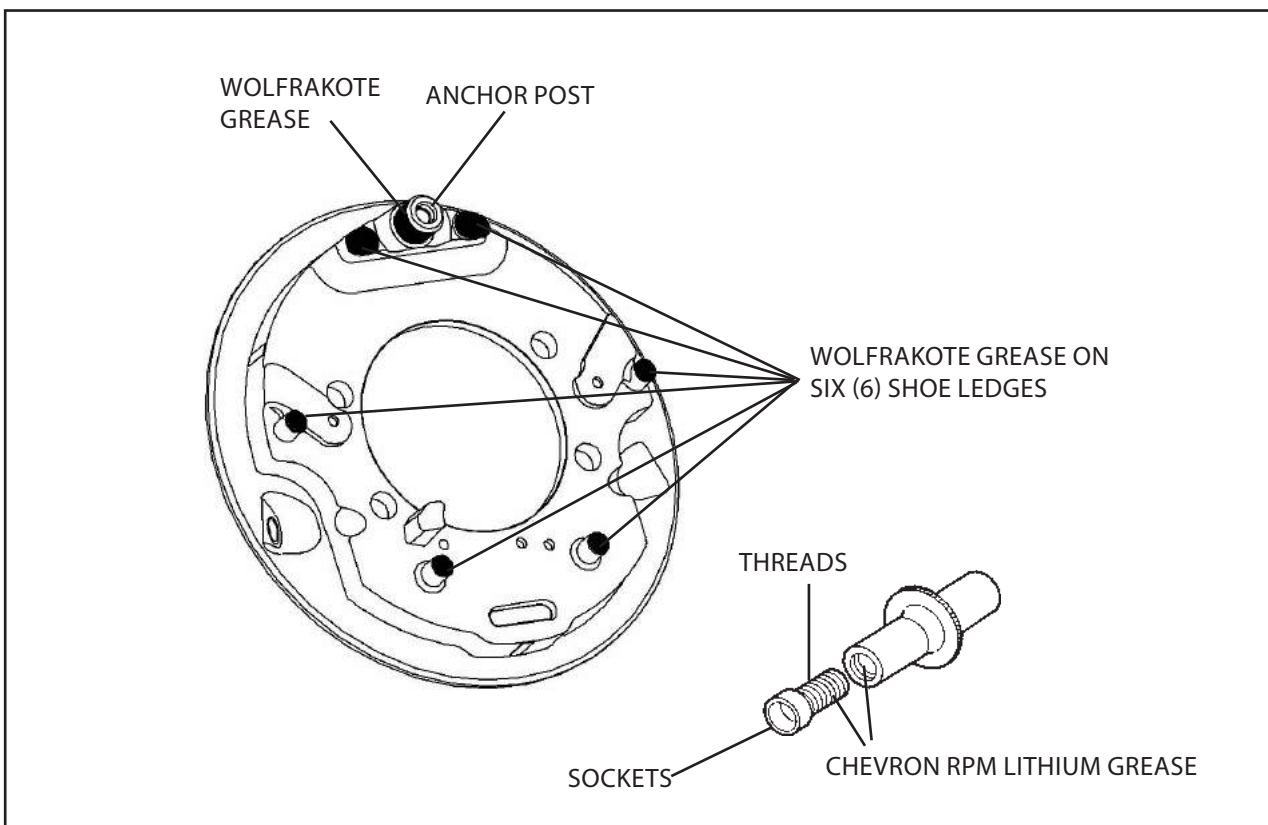

Figure 10. Application of Wolfrakote Paste Grease to Wear Points and Chevron RPM Lithium Shoe Grease to Adjuster Screw
2. Apply a light film of Wolfrakote paste ledge grease to the six (6) backing plate shoe ledges and one (1) anchor post as shown in Figure 10.
4. Apply Chevron RPM heavy duty, lithium complex, molybdenum disulfide, extreme pressure grease to the threads of the adjuster screw, adjuster nut, and the socket ends of the adjuster nut and install the screw fully into the adjuster nut. Insure the screw moves in and out freely. If any damage to the threads prohibits free movement, or if the starwheel is damaged, replace adjuster assembly. See Figure 10.